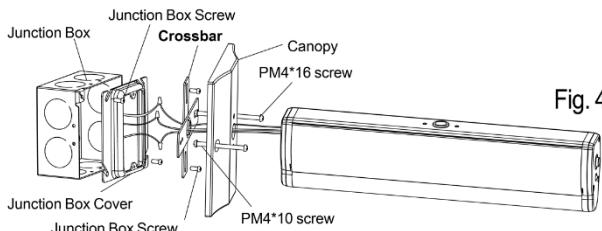

Fig. 4
- Attach crossbar (if needed) to junction box. (See Fig. 4 for crossbar installation, Fig 5 without crossbar installation)